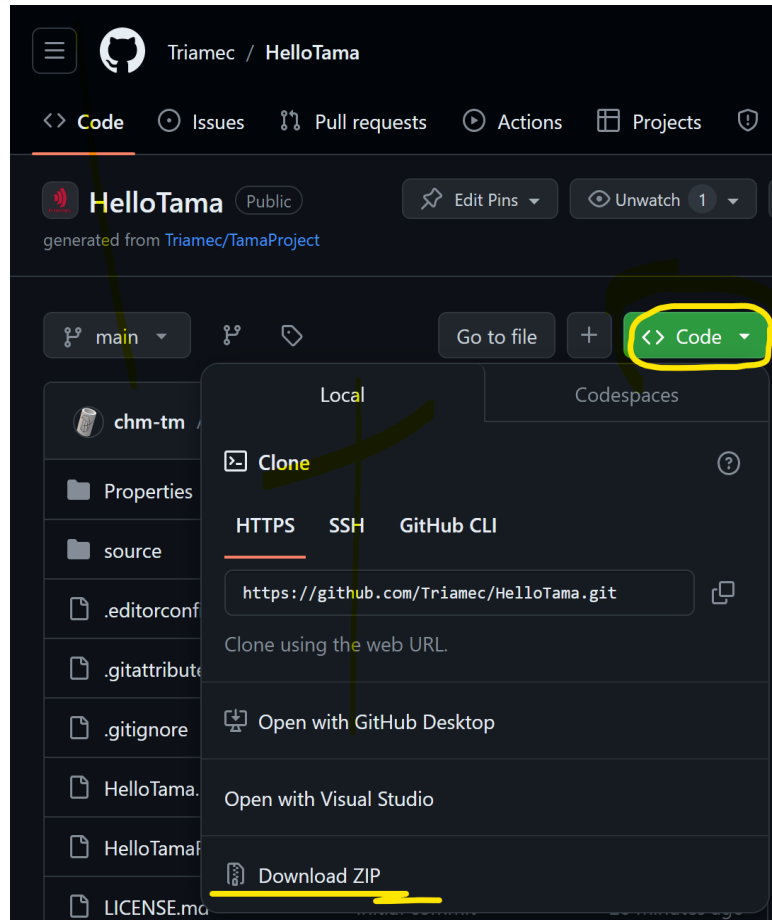

Figure 1: Download the HelloTama sample from GitHub
- ♦ Now the **Solution Explorer** (menu **View > Solution Explorer**) should show the structure displayed in Figure 1.